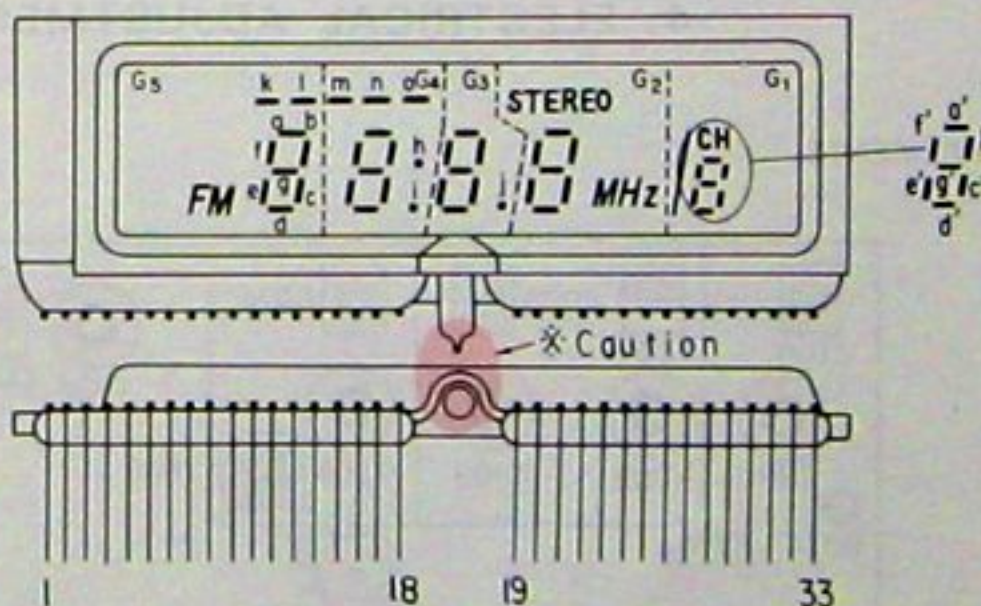

Figure 16.
- Be careful not to break the part marked ※ in figure 16 when drawing out the Tube, Display Assembly from the Cabinet since it is very fragile.